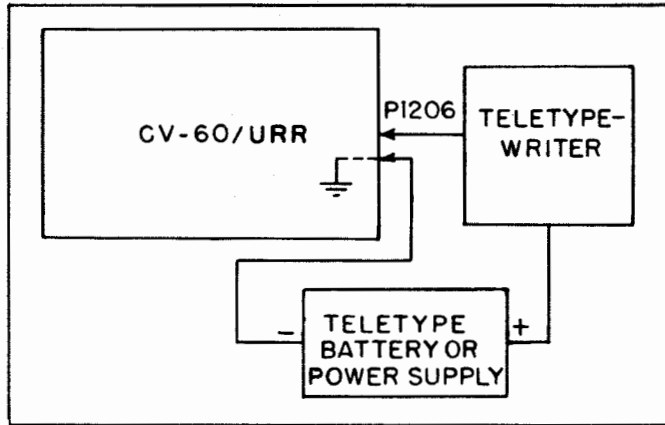

Figure 3-3. Teletypewriter Loop Circuit, Block Diagram
(2) POWER CABLE.—Remove plug P1208 from PWR INPUT jack J1208, disassemble and, using a two-wire power cable, solder the wires to pins A and C. Reassemble the plug and replace on PWR INPUT jack J1208.
(3) TELETYPEWRITER OUTPUT CABLE.—Remove plug J1206 from TTYP. OUTPUT jack J1206, disassemble, and, using two-wire cable connect leads to A and B. Note that pin B is grounded inside the unit. If using single conductor shielded wire, solder conductor to A and shield to B. Reassemble plug and replace on TTYP. OUTPUT jack J1206. The teletype loop current must be supplied from external teletype battery or power supply. The negative side of the teletype loop is grounded in the Frequency Shift Converter CV-60/URR. See Figure 3-3.
(4) **TELETYPEWRITER CABLE.**—Remove plug P1304 from TYP. OUTPUT jack J1304, disassemble, and using two-wire cable, solder leads to A and B. The teletypewriter loop current must be supplied from external teletype battery or power supply. The negative side of the teletypewriter loop is grounded in the Frequency Shift Converter-Comparator Group AN/URA-8. See Figure 3-3.